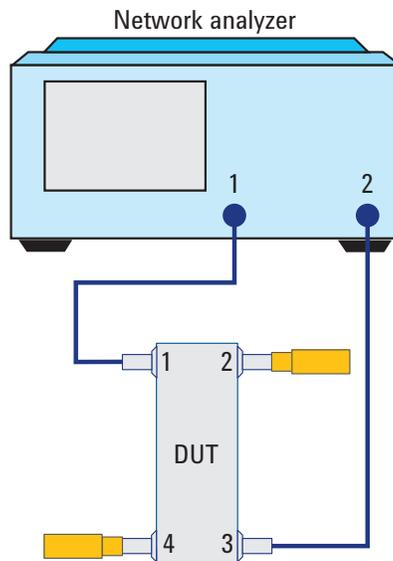

Figure 14. Equipment setup using network analyzer with coupler port 1 and port 3
- Move test port 2 to port 3 of the DUT, see Figure 14. The unused port to be terminated with a 50 Ω termination. Measure and record -90 degree output port 3 VSWR (S33). Verify the measurement is within the limits as shown in the specification.